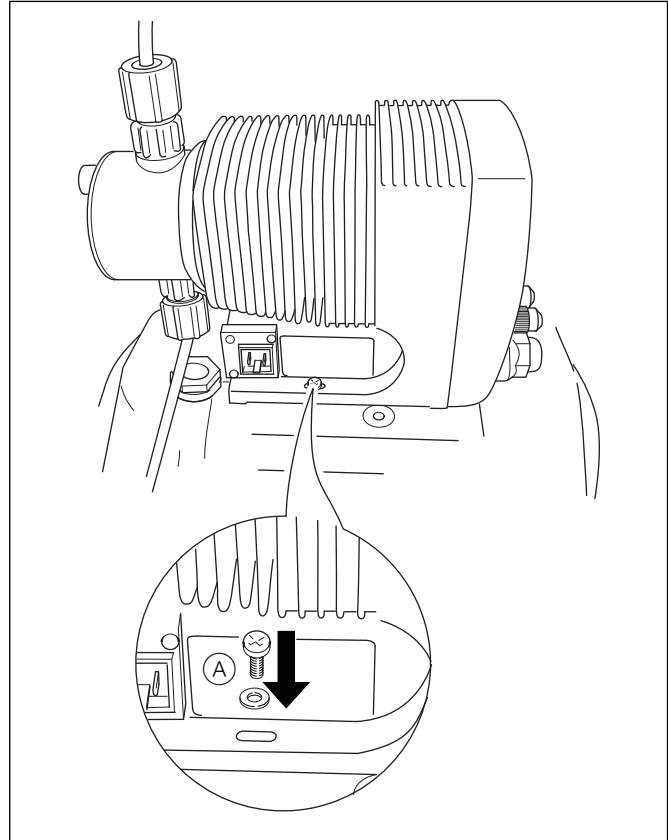

Fig. 2.1 Fitting the Pump to the Reservoir
Referring to Fig. 2.1, secure the pump to the reservoir using the two screws (A) provided.